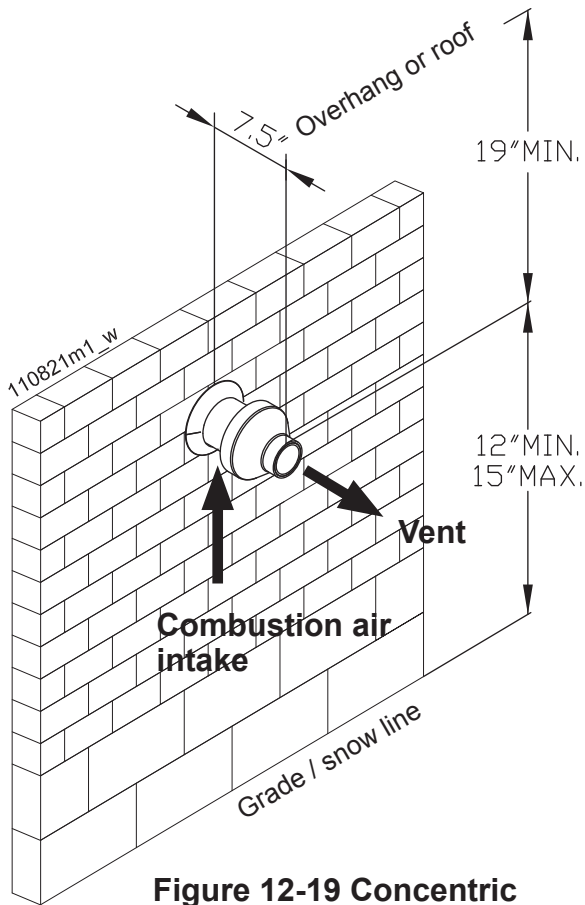

Figure 12-19 Concentric sidewall termination clearances
The termination kit must terminate outside the structure and must be installed as shown in Figure 12-19.
1. Determine the best location for the termination kit (see Figures 12-19 and 12-20).
4. Cut one (1) hole 5 inch diameter into the structure to install the termination kit.
NOTICE! Ensure termination location clearance dimensions are as shown in Figures 12-19 and 12-20.